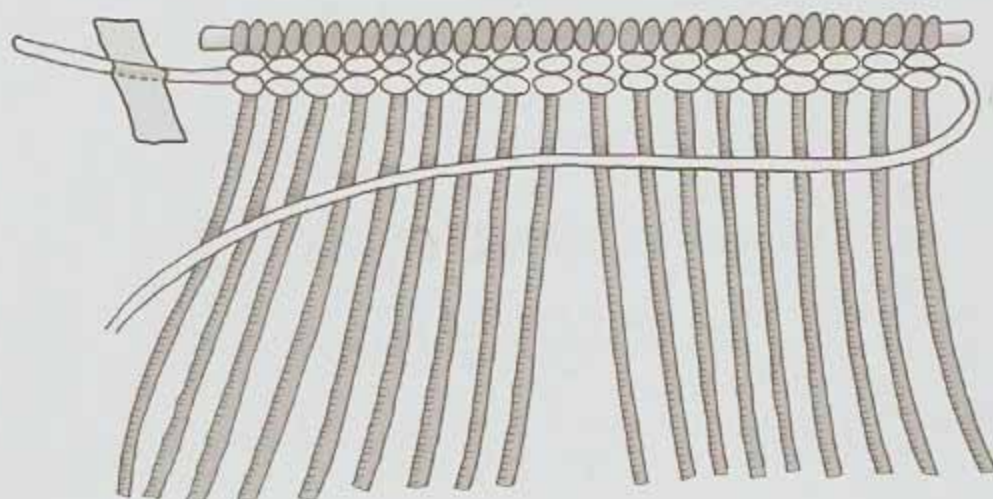

Fig. 1
2. Row 1 - Attach the 9 Color A (warp) cords to the wire bar using Mounting Knots (see Figure 1). It may help to put some small pieces of tape on the ends of the wire so that the cords don't slip off. Tighten and push all the cords close together and center them on the wire. Temporarily pin it to the board by placing
4. Row 2 - Tape or pin one end of the Color B cord to the left of the first warp cord (top left corner) leaving a 3" tail. Make a **VDHH** around the first warp cord with the Color B Cord. Continue the row with all **VDHHs** (see Figure 1).